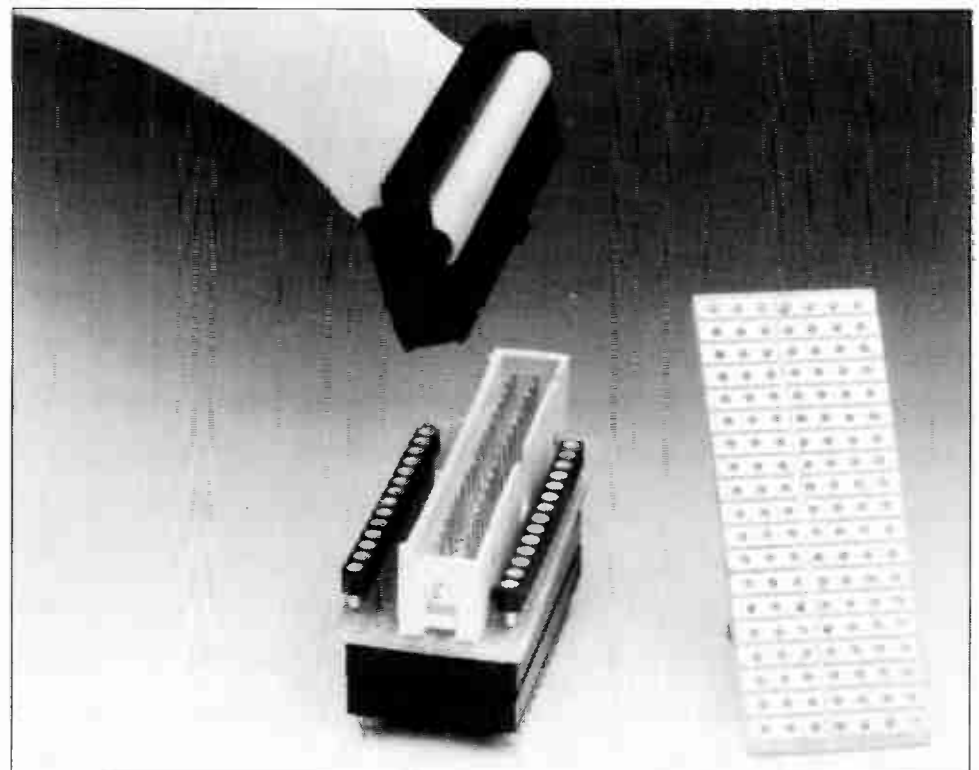

Fig. 5. Illustrating the construction of the home-made EPROM adaptor.
- 28-way DIL adaptor (see Fig. 5)
The EPROM adaptor is home-made. As shown in Fig. 5, it consists of a piece of strip-board, two lengths of IC pin strip, a box header and two 28-way IC sockets. The flatcable from the EPROM emulator is fitted with a 28-way IDC socket. You may want to make one adaptor for each EPROM type, and wire-jumpers A13, A14 and A15 appropriately, direct on the socket. Wires 29 to 34 of the flatcable are connected to the RESET generator on the emulator board, and may also be taken to the adaptor socket to create a RESET connection for the application circuit. ■